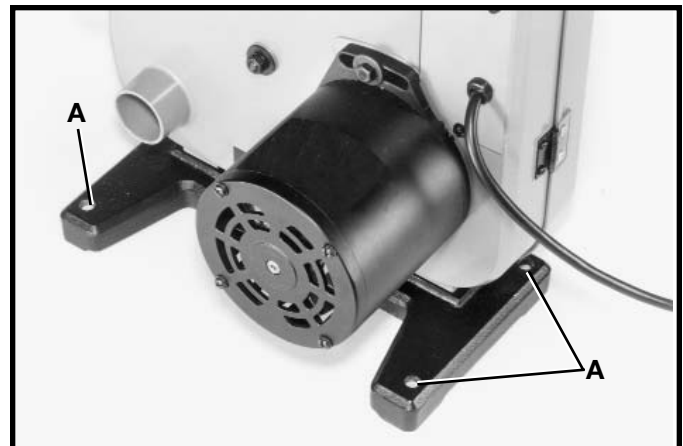

Fig. 14
If during operation there is any tendency for the machine to tip over, slide, or "walk" on the supporting surface, the machine must be secured to the supporting surface. Four holes are provided in the band saw base for this purpose, three of which are shown at (A) Fig. 14.